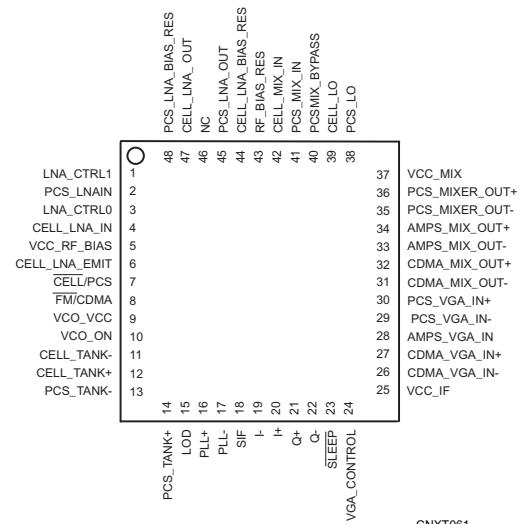
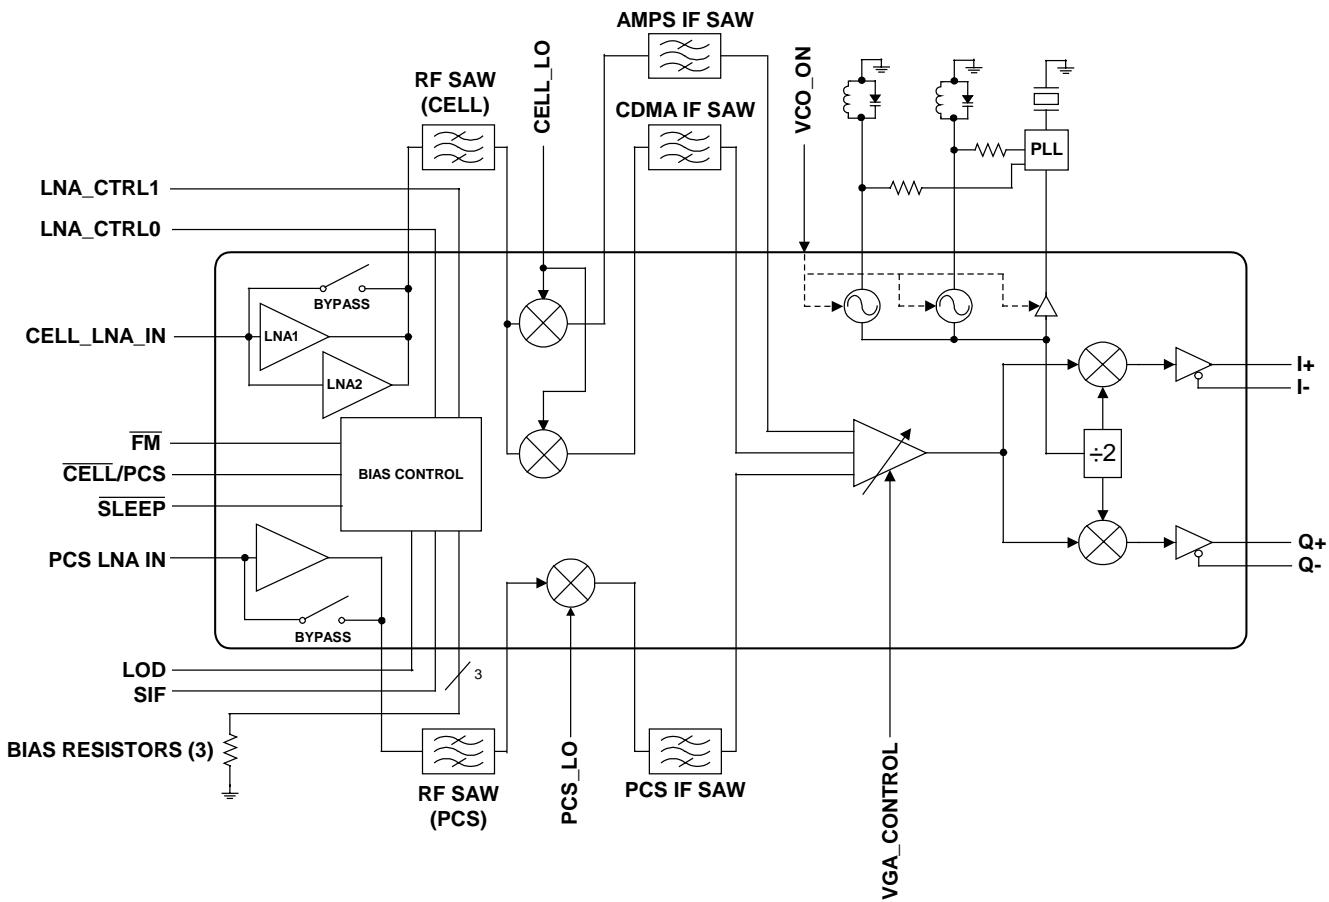

Figure 1. CX74001 Rx ASIC Pinout (Top View)
Figure 2. CX74001 Rx ASIC Block Diagram
A device package and pinout is shown in Figure 1, a block diagram is shown in Figure 2, a schematic diagram is shown Figure 4, and a package drawing is shown in Figure 5.
- 7 x 7 mm RF Land Grid Array (RF-LGATM) package with down-set paddle (Figure 1)
Electrical and Mechanical Specifications. Included in this document are Tables 1 through 7 and Figures 1 through 3, which define the electrical and mechanical specifications of the CX74001.
- Figure 1: CX74001 Rx ASIC Pinout
- Figure 2: CX74001 Rx ASIC Block Diagram